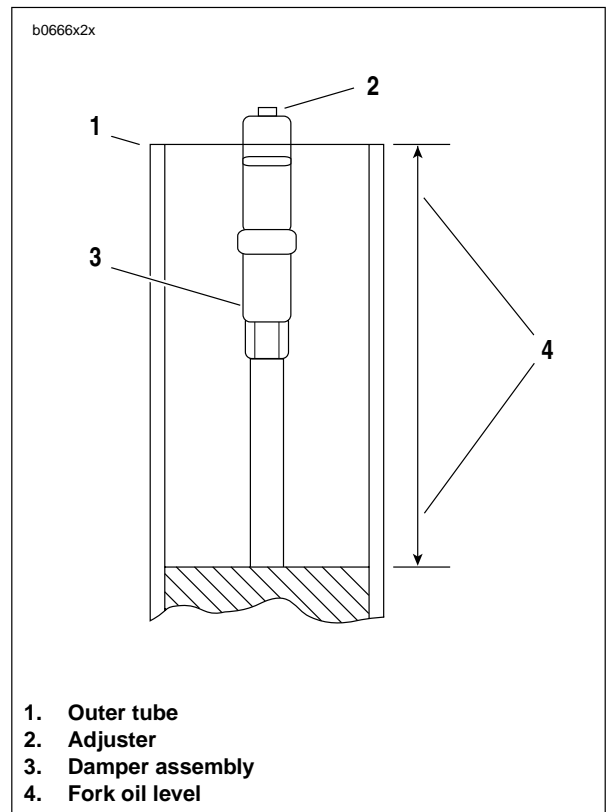

Figure 2-75. Measuring Fork Oil Level
17. See Figure 2-75. Adjust fork oil level with FRONT FORK OIL LEVEL GAUGE (Part No. B-59000A) so that it is 7.56 in. (192 mm) from the top of the fork tube.